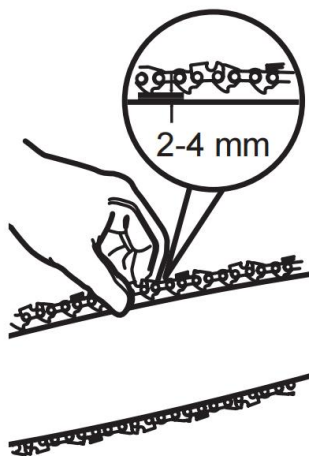

Fig. 15
1) Check the chain tension using one hand to lift the saw chain (C12) against the weight of the product. The correct chain tension is achieved when the saw chain can be lifted by approx. 2 - 4 mm from the guide bar (C13) in the centre (Fig. 15).